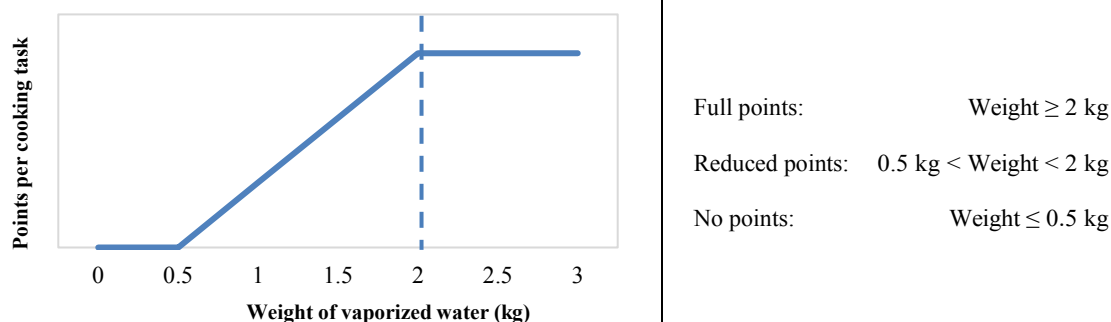

Figure 9 Scoring function for the Cooking Subcontest
- a. Reduced points are earned if between 0.5 kg and 2 kg are vaporized. Reduced point values are scaled linearly, as shown in Figure 9.